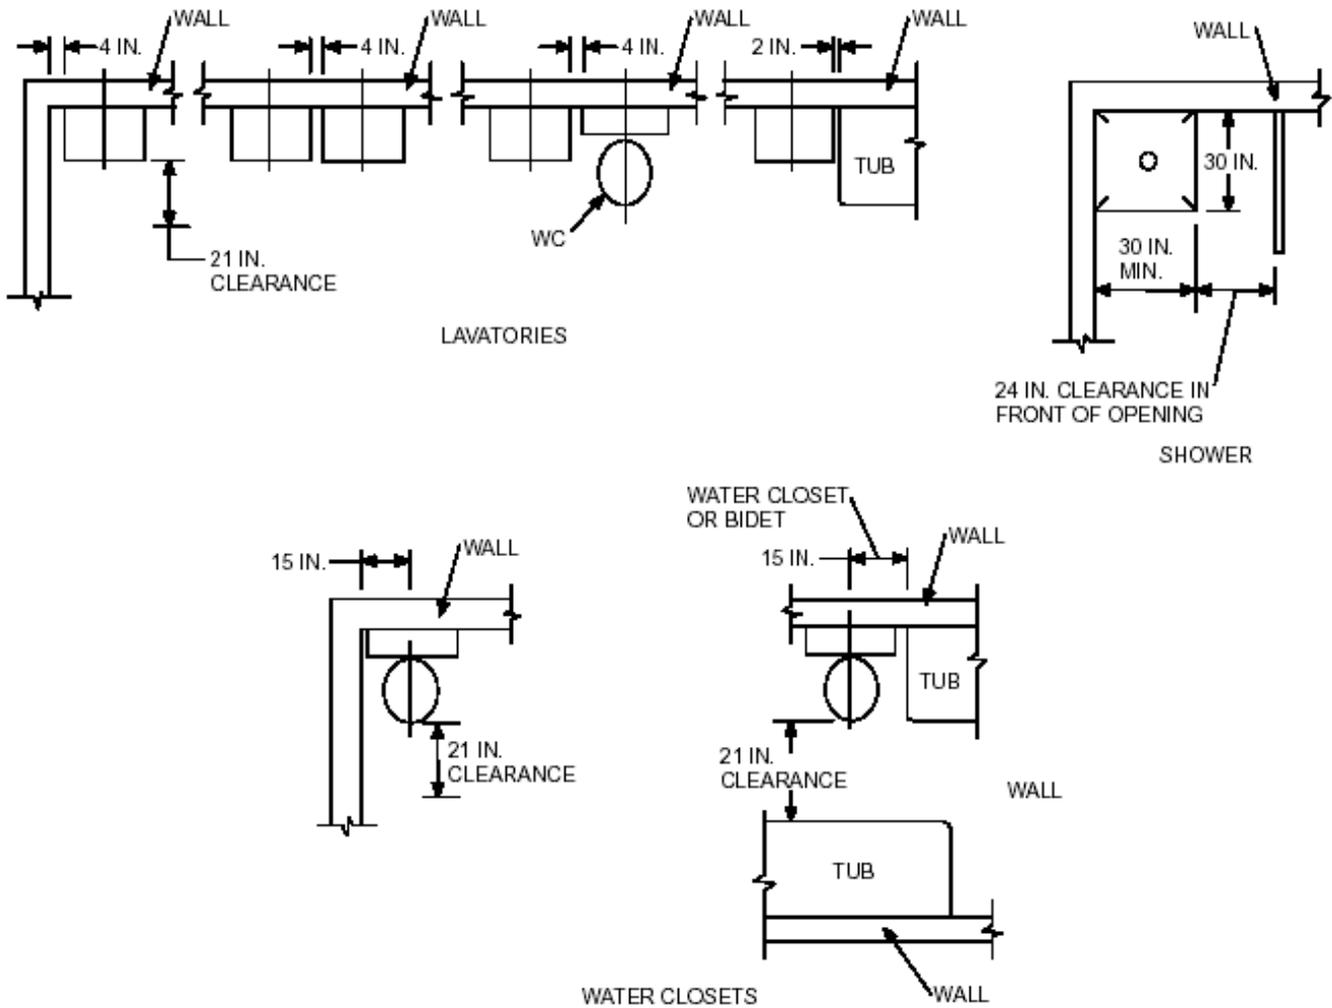

FIGURE R307.2
4. Bathrooms may have a ceiling height of 6 feet 8 inches over the fixture and at front clearances as shown in FIGURE R307.2 (attached)
Plumbing fixtures are required to be spaced as per FIGURE R307.2 (below)